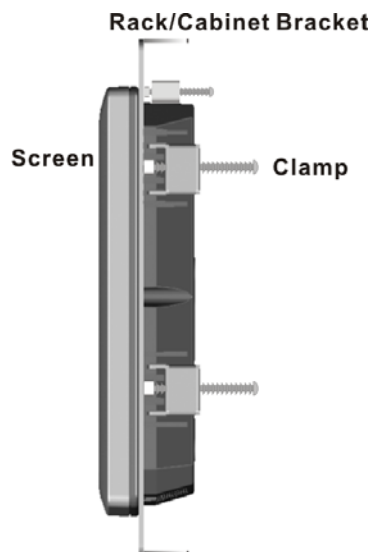

Figure 4-23: Secure the Rack/Cabinet Bracket (AFL-10A-N270/AFL-12A-N270)
Step 3: Tighten the screws that pass through the rack mounting clamps until the plastic caps at the front of all the screws are firmly secured to the bracket (**Figure 4-23**).